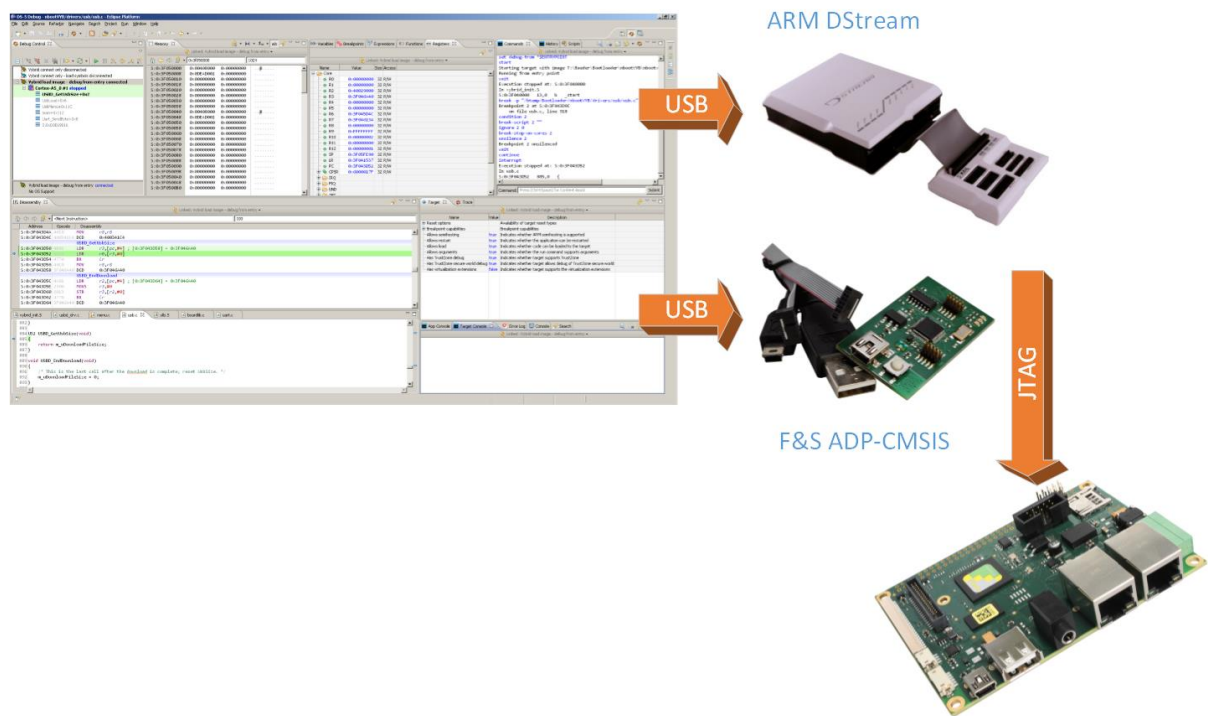

Figure 4: Needed tools and connections
- Figure 4: Needed tools and connections 7